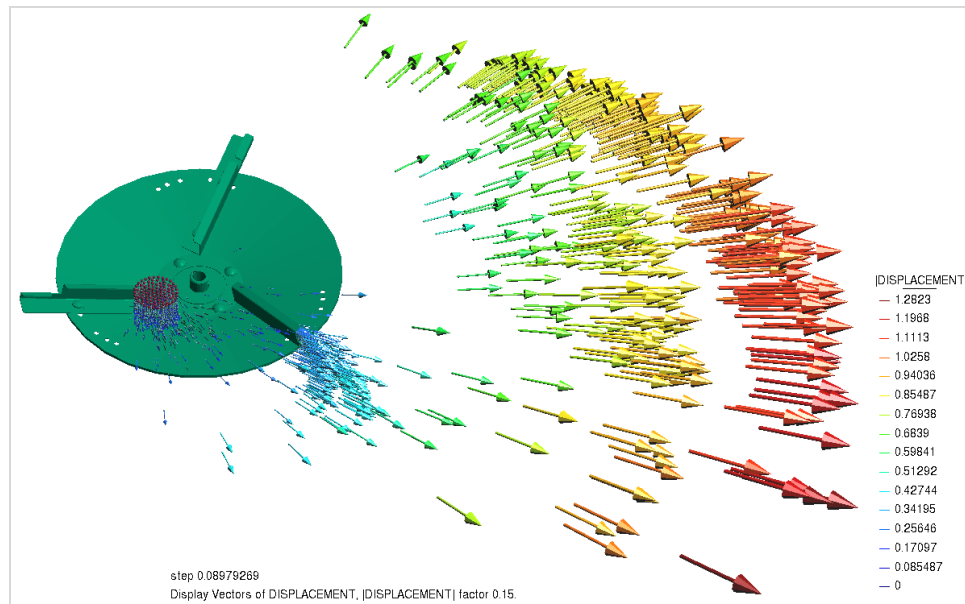

Figure 43. Displacement vectors.
- **Displacement vectors:** module of the displacement vectors of the fertilizer particles, in meters, represented by a color scale (Figure 43).